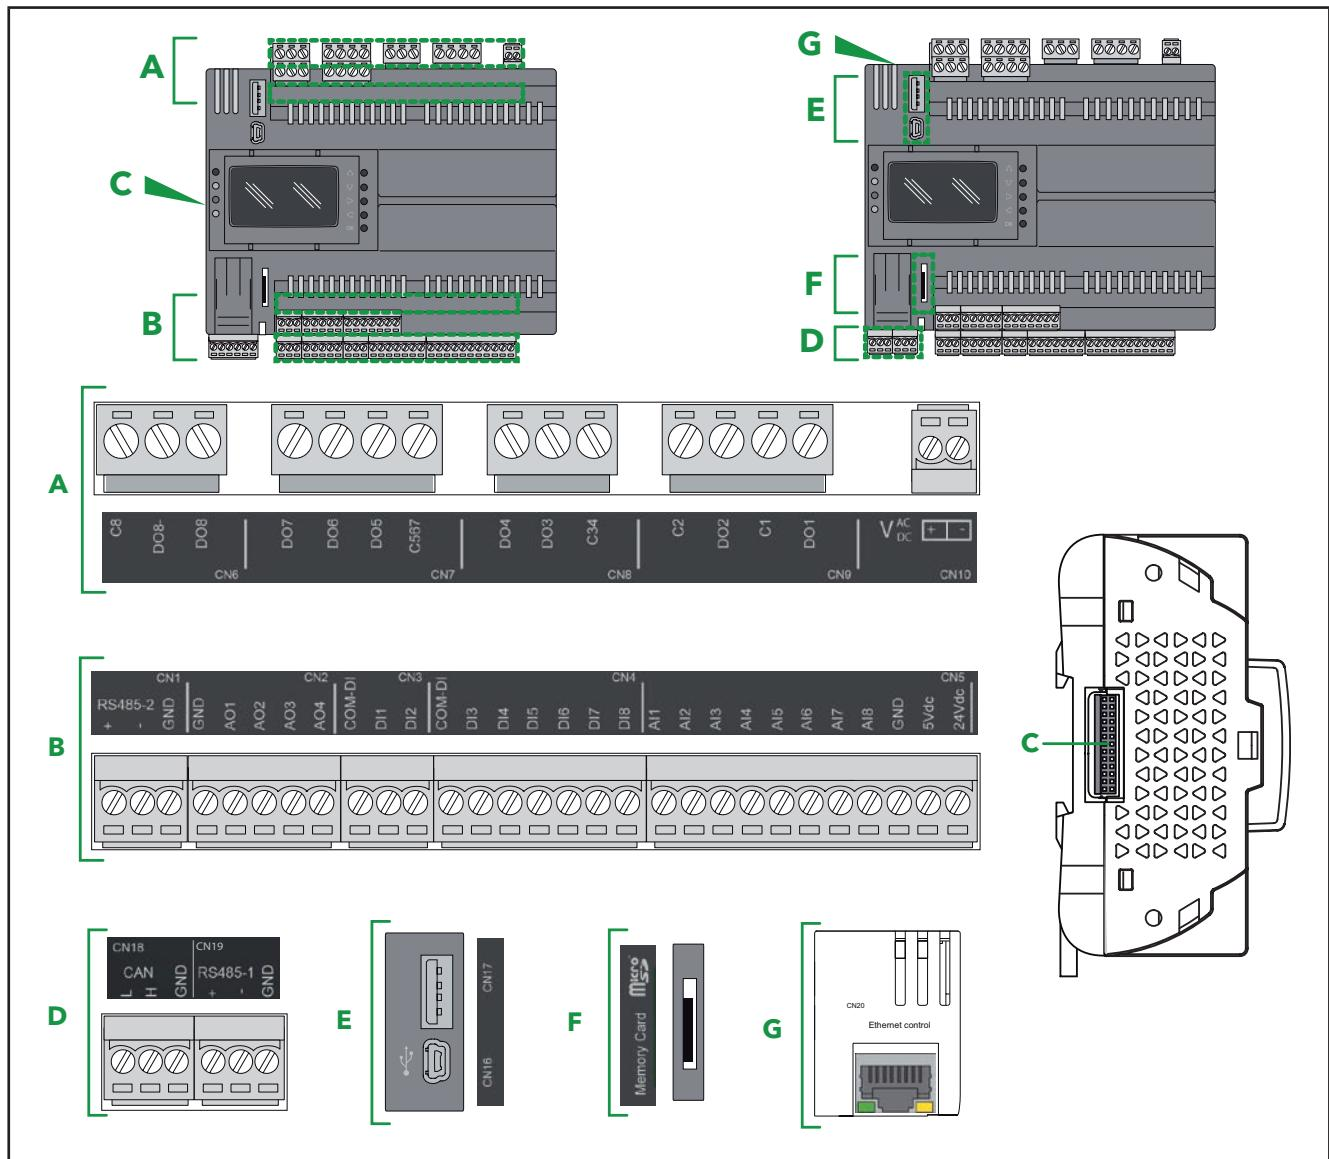
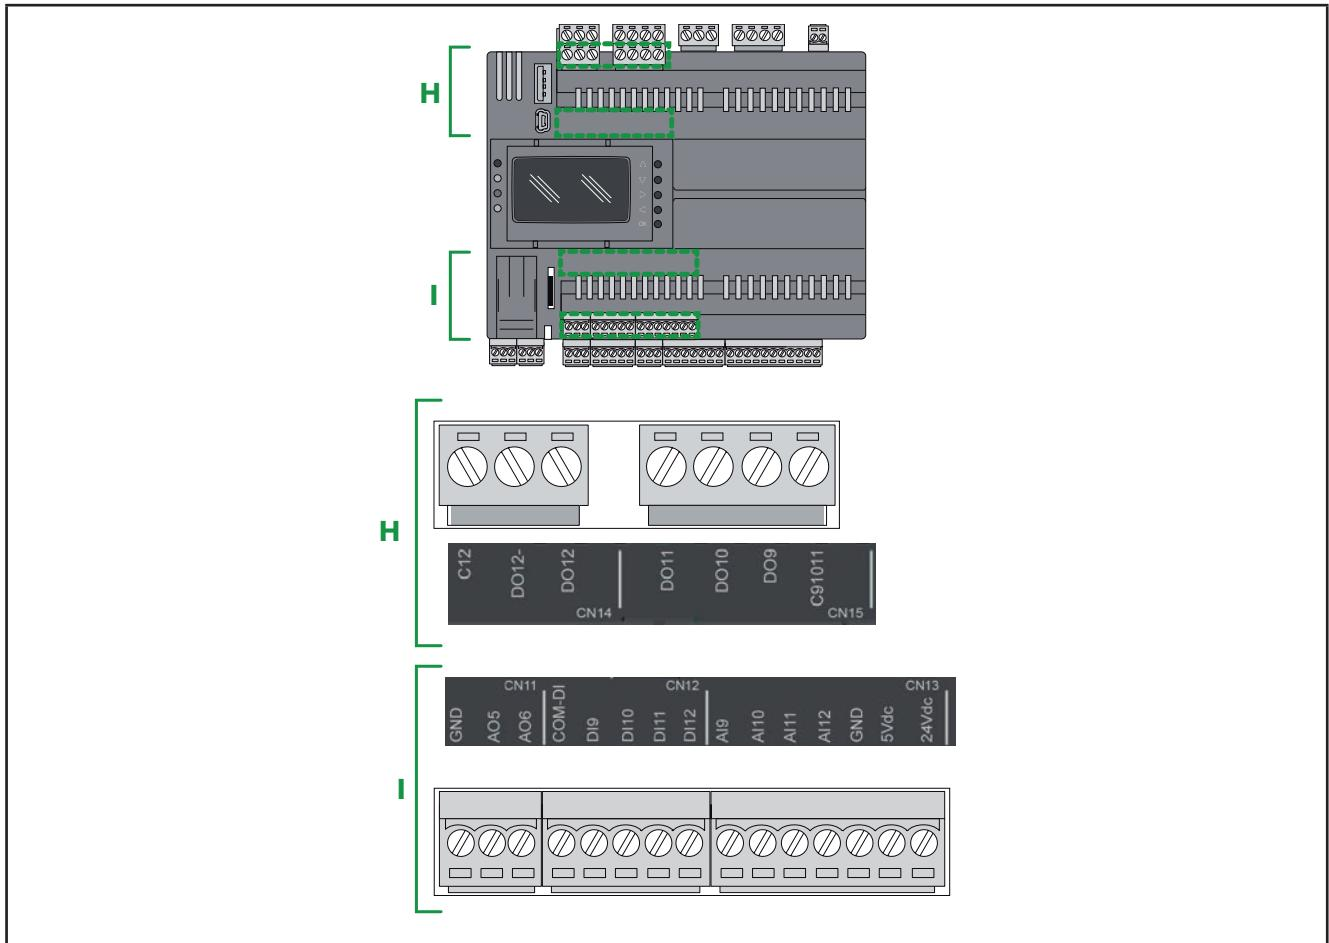

Fig. 22. EWCM 9000 PRO (HF) base board connectors
Fig. 23. EWCM 9000 PRO (HF) upper board connectors
The labels of the I/O and ports are marked on the casing of the **EWCM 9000 PRO (HF)** (see Fig. 22 on page 40 and Fig. 23 on page 41).